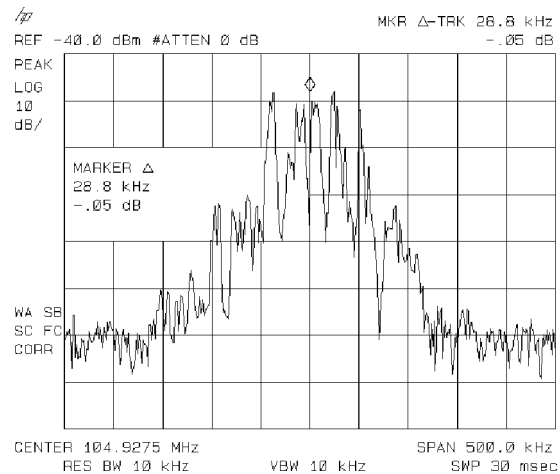

Figure 6-9. Using Marker Tracking to Track an Unstable Signal
5. The signal frequency drift can be read from the screen if both the marker track and marker delta functions are active. Press **MKR**, **MARKER Δ**, **MKR FCTN**, **MK TRACK ON OFF**; the marker readout indicates the change in frequency and amplitude as the signal drifts. (See Figure 6-9.)